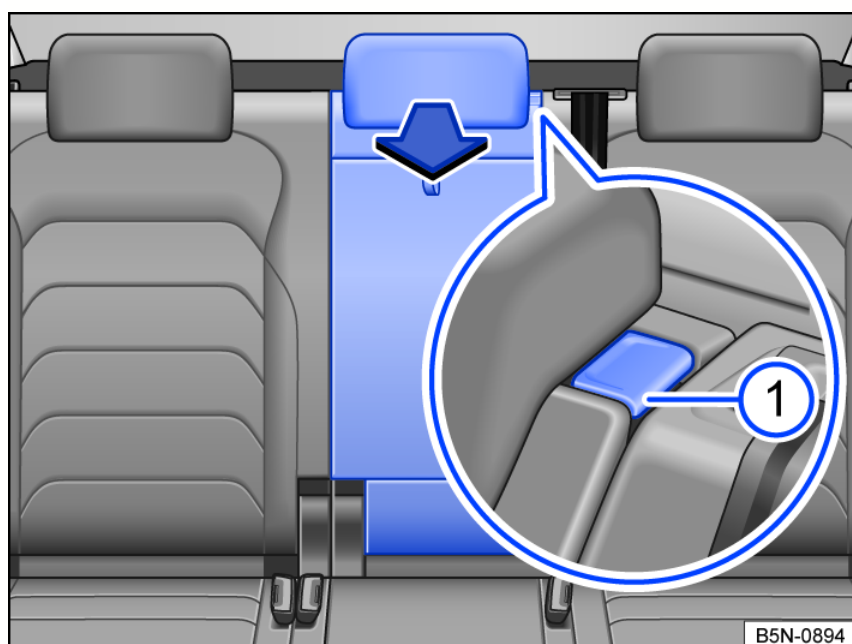

Fig. 160 In the rear seat backrest: Open the luggage compartment pass-through.
- Press the release button fig. 160 ① and fold the luggage compartment pass-through forwards ⇒ ⚠.
- Fold the luggage compartment pass-through backwards and press it firmly into the catch until it securely engages ⇒ ⚠. The red marking on the release button fig. 160 ① must not be visible.